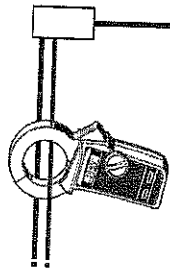

Fig.3 Normal AC Current Measurements
- Frequency selector switch ④ is designed to select the "50/60Hz" and "WIDE" frequency ranges. For further details, refer to section 5-4 for operation of the frequency selector switch.
- (1) Set the function/range switch to the desired position. Do not exceed the maximum allowable input current for the selected range.
- (2) For normal measurement, press the jaw trigger to open the transformer jaws and clamp onto one conductor only. See Fig.3. Earth leakage current or small current that flow through a grounded wire can also be measured by this method. (Fig. 4)